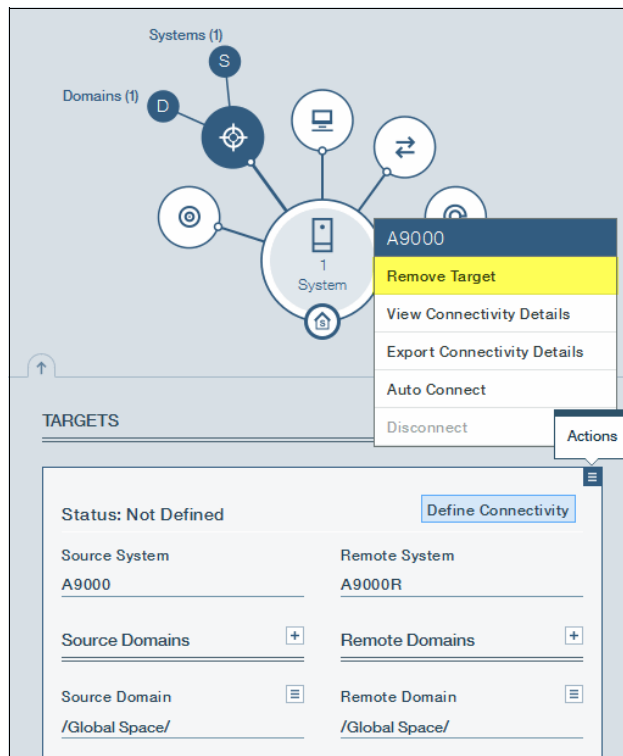

Figure 4-48 Remove Target (links have already been removed)
2. From the **Targets** spoke in the Systems Hub display, click the **Targets Actions** menu and select **Remove Target**, as shown in Figure 4-48. Click **Apply** in the resulting confirmation window.